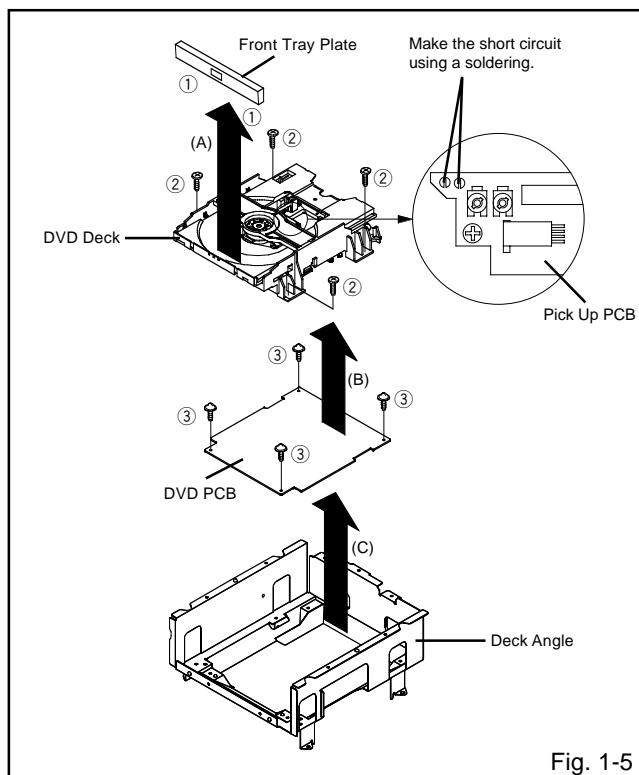

Fig. 1-5
## 1-5: DVD PCB/DVD DECK (Refer to Fig. 1-5)
1. Make the short circuit on the position as shown **Fig. 1-5** using a soldering. If you remove the DVD Deck with no soldering, the Laser may be damaged.
2. Unlock the 2 supports ①.
3. Remove the Front Tray Plate in the direction of arrow (A).